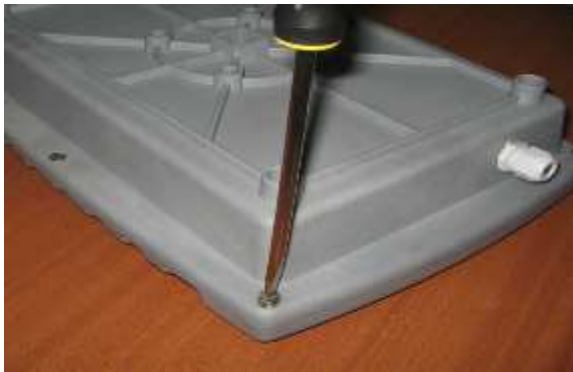

Figure 1. Unscrew enclosure.
1. Unscrew the back of the enclosure and carefully lift off the lid containing the integrated antenna (refer to figure 1).